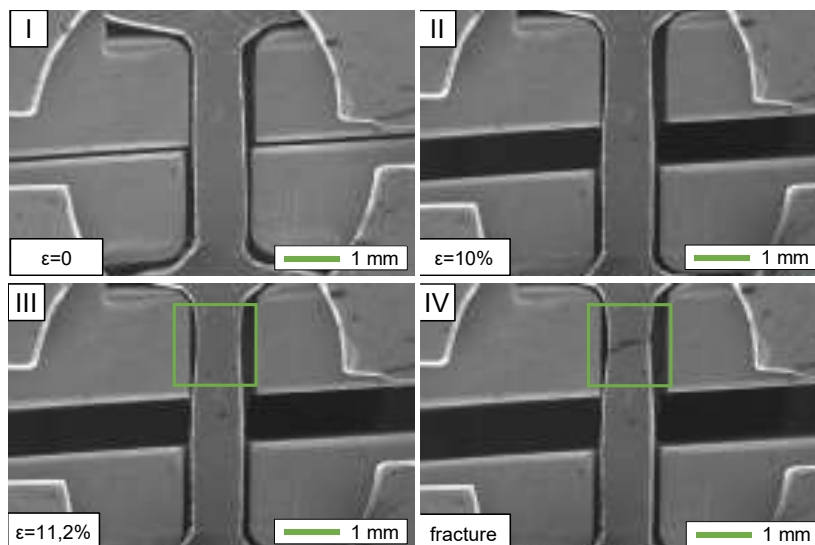

Fig. 10 AlSi10Mg, build direction XY [3]
Fig. 10 shows the in-situ test of an AlSi10Mg specimen, manufactured in the XY direction, deforming in tension. In Fig. 10(III), neck formation can be noted, with the material elongating until final fracture (IV). The images taken with the SEM also showed the superficial defects present in this specimen. Although there were large-sized inclusions from the manufacturing process, the fracture occurred in the middle of the neck. The tensile forces formed a neck close to the top side instead of crossing areas of high porosity.